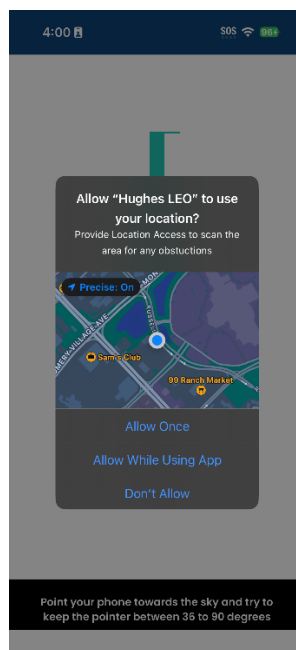

Figure 76: Allowing the app to use your location
3. The app will ask you to give your permission for using your location information, as shown in Figure 76. If you do not give location permission, the site survey procedure will abort.